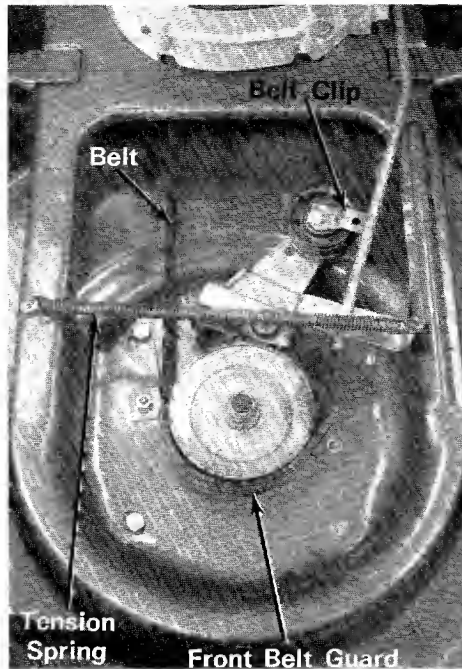

Figure 21
- 1 Remove the blade spindle cover. (See figures 21 and 22.)
- 15 Position the belt clip on the idler pulley to clear the tightened belt. Secure the belt clip in position with the nut. (See figure 21.)